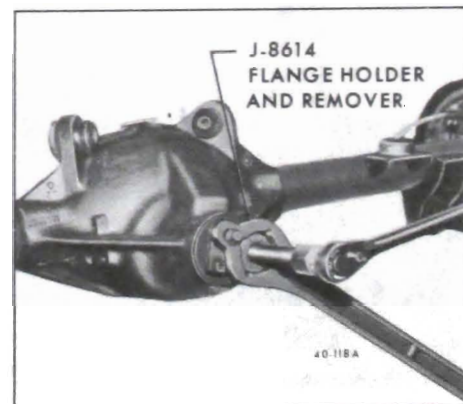

Figure 40-97 - Removing Pinion Flange
3. Pull pinion flange from pinion using Puller J-8614-02 in Holder J-8614-01. To install puller, back out puller screw, insert puller through holder, and rotate 1/8 turn. See Figure 40-97.